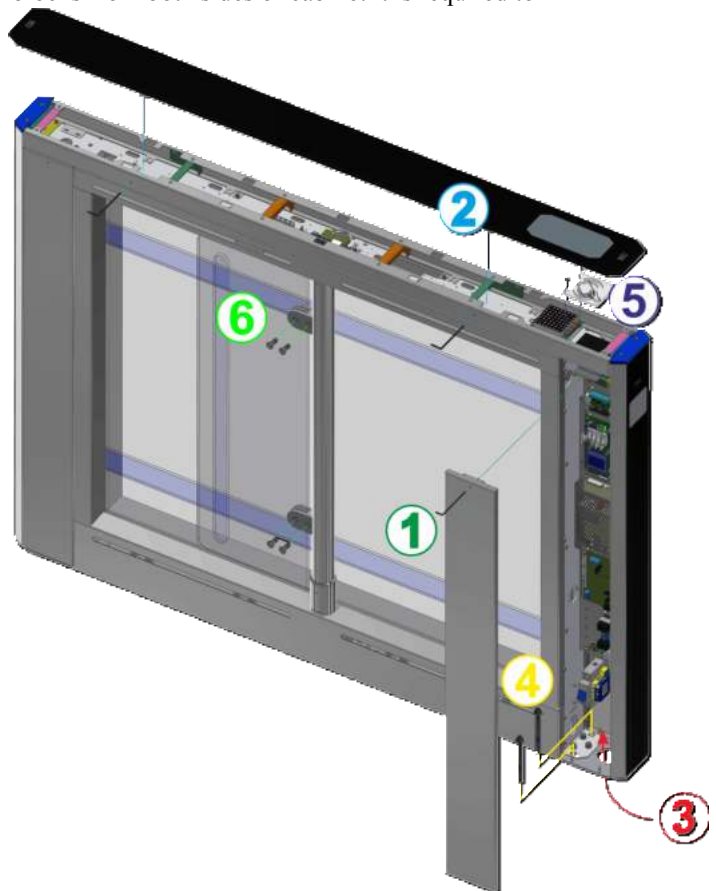

Fig. 19 – General view of the turnstile cabinet installation
- 1 The side door to be opened with allen key (see Fig.19);